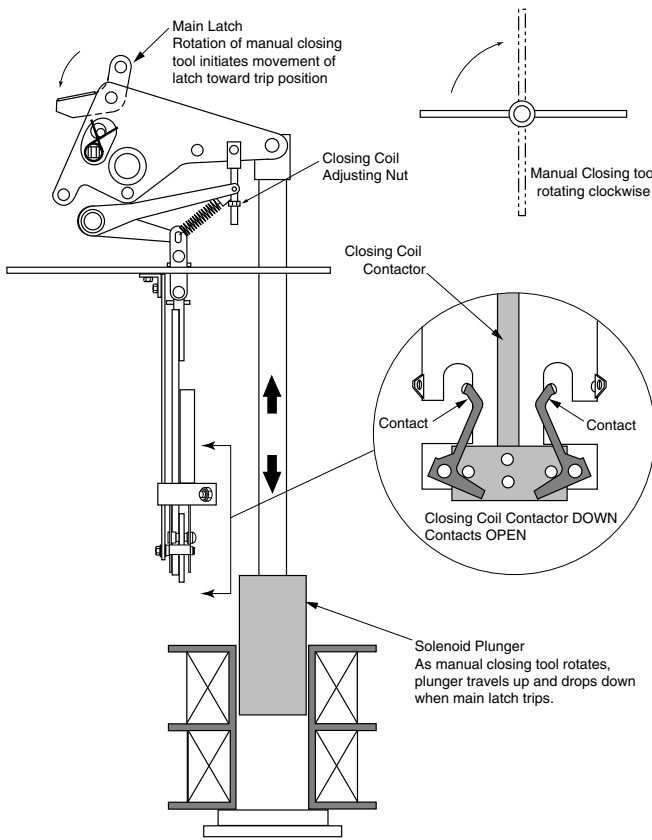

Figure 20. Closing Coil Contactor. Yellow operating handle DOWN. Main latch positioned prior to tripping. Contacts are open.
5. With the operating handle in the down position, rotate the manual closing tool clockwise, tripping the main latch. See Figure 20.